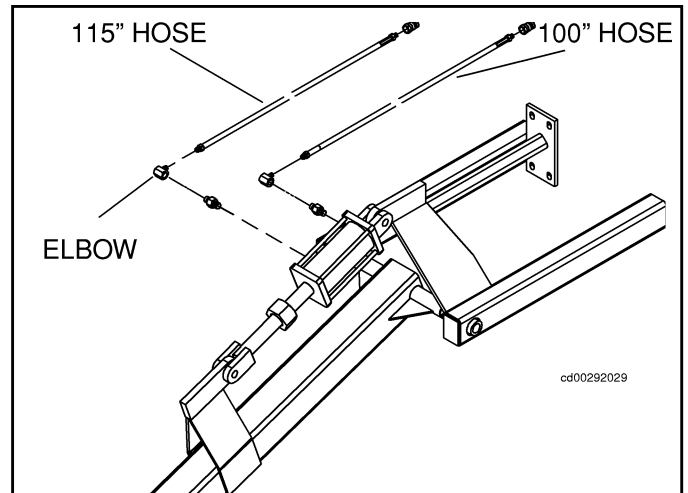

Figure 62 Mounting Hydraulics
3. Attach hoses to 6FJIC x 6MJIC elbow as shown in Figure 62.